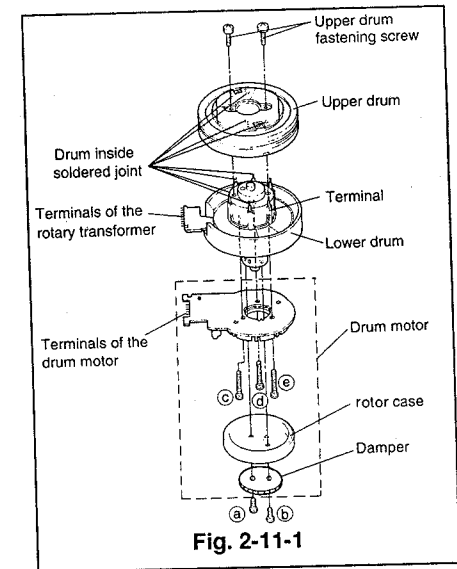

Fig. 2-11-1
- ① Remove the drum assembly. (Refer to Para. 2-10 for the removal method.)
- ② Unsolder the terminals of each head on the upper drum.
- ③ Remove the screws holding the upper drum shown in Fig. 2-11-1.
- ④ Remove the upper drum slowly and carefully.
- ⑤ Remove the screws (a and b) shown in Fig. 2-11-1 to remove the rotor case and damper. Remove the screws (c, d and e) to remove the drum motor.